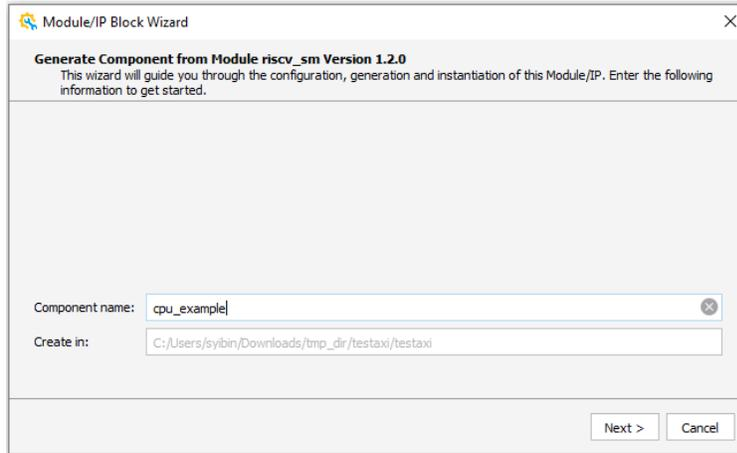

Figure 3.1. Entering Component Name
2. Enter the component name. Click **Next** as shown in Figure 3.1.